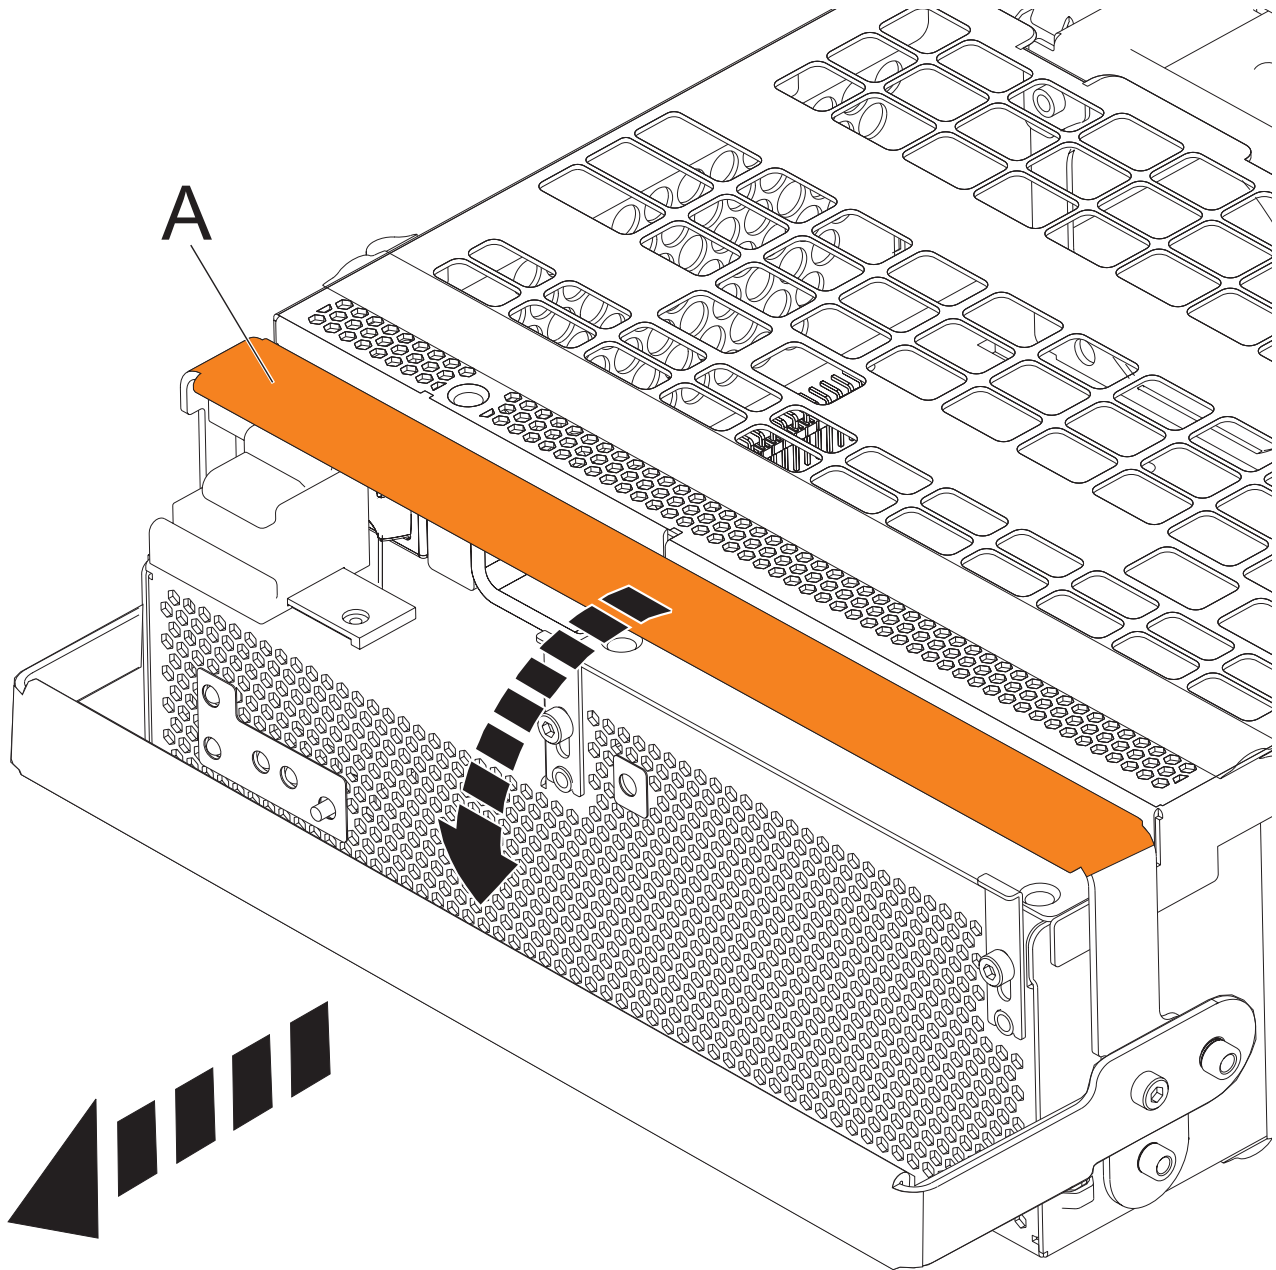

Figure 78. Remove the offline converter assemblies
- a. Pull the OCA handle (A) all the way down in the direction shown to unseat the OCA. See Figure 78 on page 86.